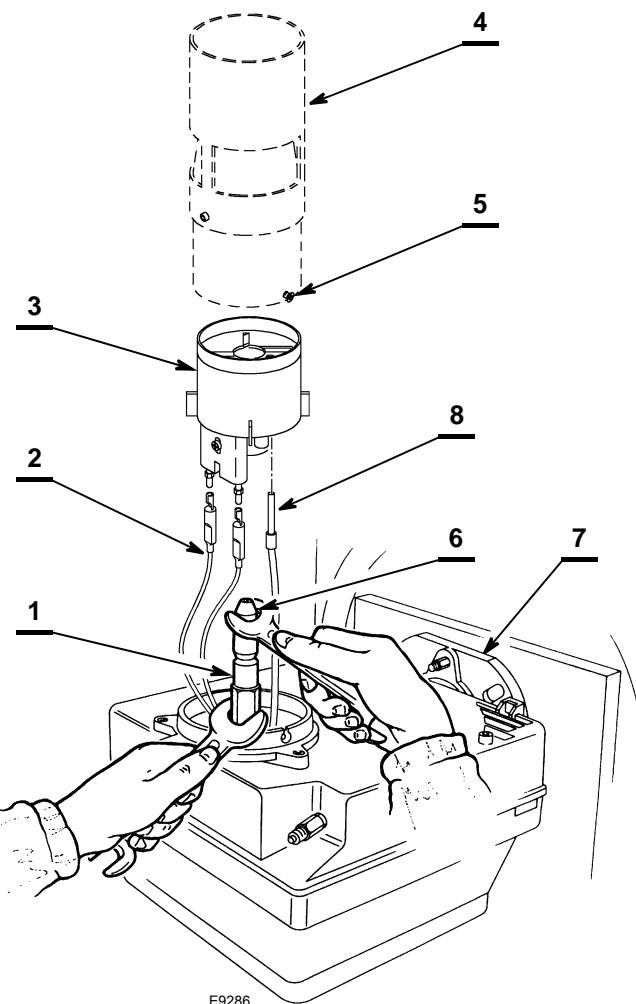

Fig. 14
- Connect the burner to the flange 7)(Fig. 14), loosen the screws 5) then take out the blast tube unit 4).
- Loosen the screw 4)(Fig. 14) to remove the diffuser disc-holder assembly 3) from the nozzle-holder assembly 1).
- Fully unscrew the fixing screw 4)(Fig. 14) to extract the optical fiber 8) from the diffuser disc-holder assembly 3).
- Replace and correctly screw in the nozzle 6), tightening it as shown in Fig. 14.